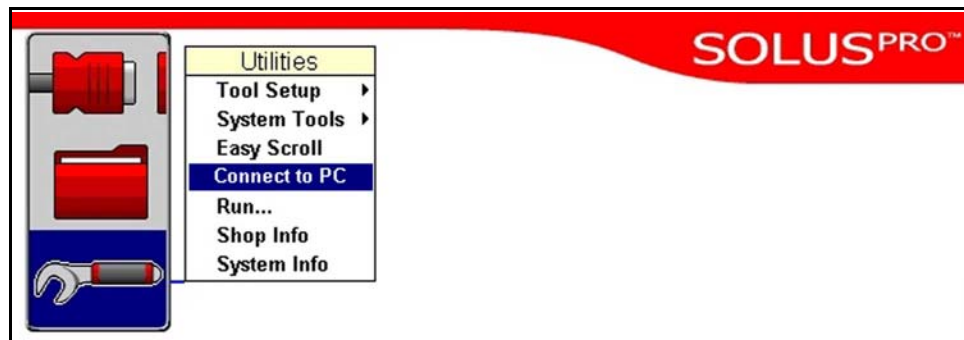

Figure 4-28 SOLUS PRO utilities menu
2. From the Main Menu, navigate to **UTILITIES > Connect to PC** (Figure 4-28).